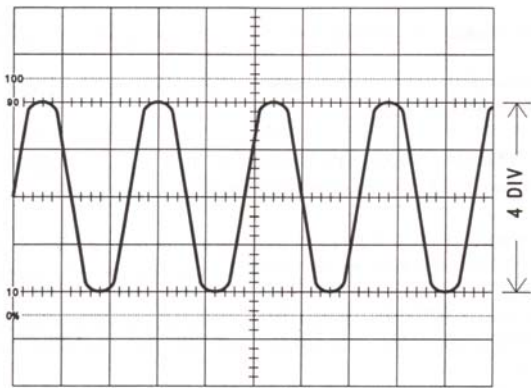

Fig. 2.5: Peak-To-Peak Voltage Measurement
2. Adjust the TIME/DIV switch (15) for two or three cycles of waveform, and set the VOLTS/DIV switch for the largest-possible totally-on-screen display.
3. Use the appropriate Vertical POSITION control (4) or (7) to position the negative signal peaks on the nearest horizontal graticule line below the signals peaks, per Figure 2-5.
4. Use the Horizontal POSITION control (10) to position one of the positive peaks on the central vertical graticule line. This line has additional calibration marks equal to 0.2 major division each.
5. Count the number of division from the graticule line touching the negative signal peaks to the intersection of the positive signal peak with the central vertical graticule line. Multiply this number by the VOLTS/DIV switch setting to get the peak-to-peak voltage of the waveform. For example, if the VOLTS/DIV switch were set to 2 V, the waveform shown in Figure 2-5 would be 8.0 V_{pp} (4.0 div x 2 V).